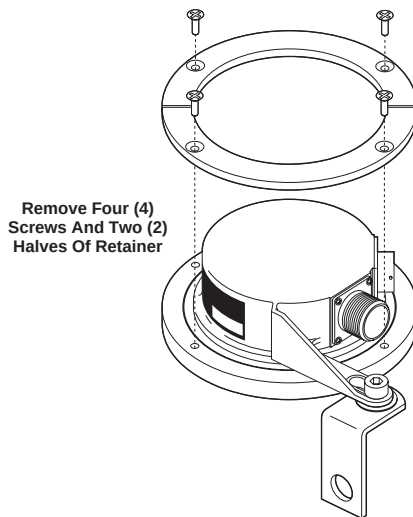

Figure 11-1. Remove Retainer Rings
2. Remove the four screws securing the two halves of the retaining ring and remove the retaining rings (Figure 11-1).